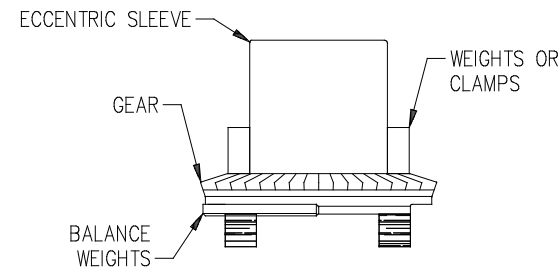

Fig. 6.9.5
7. Clamp it down firmly until cooled down. (Fig. 6.9.5).